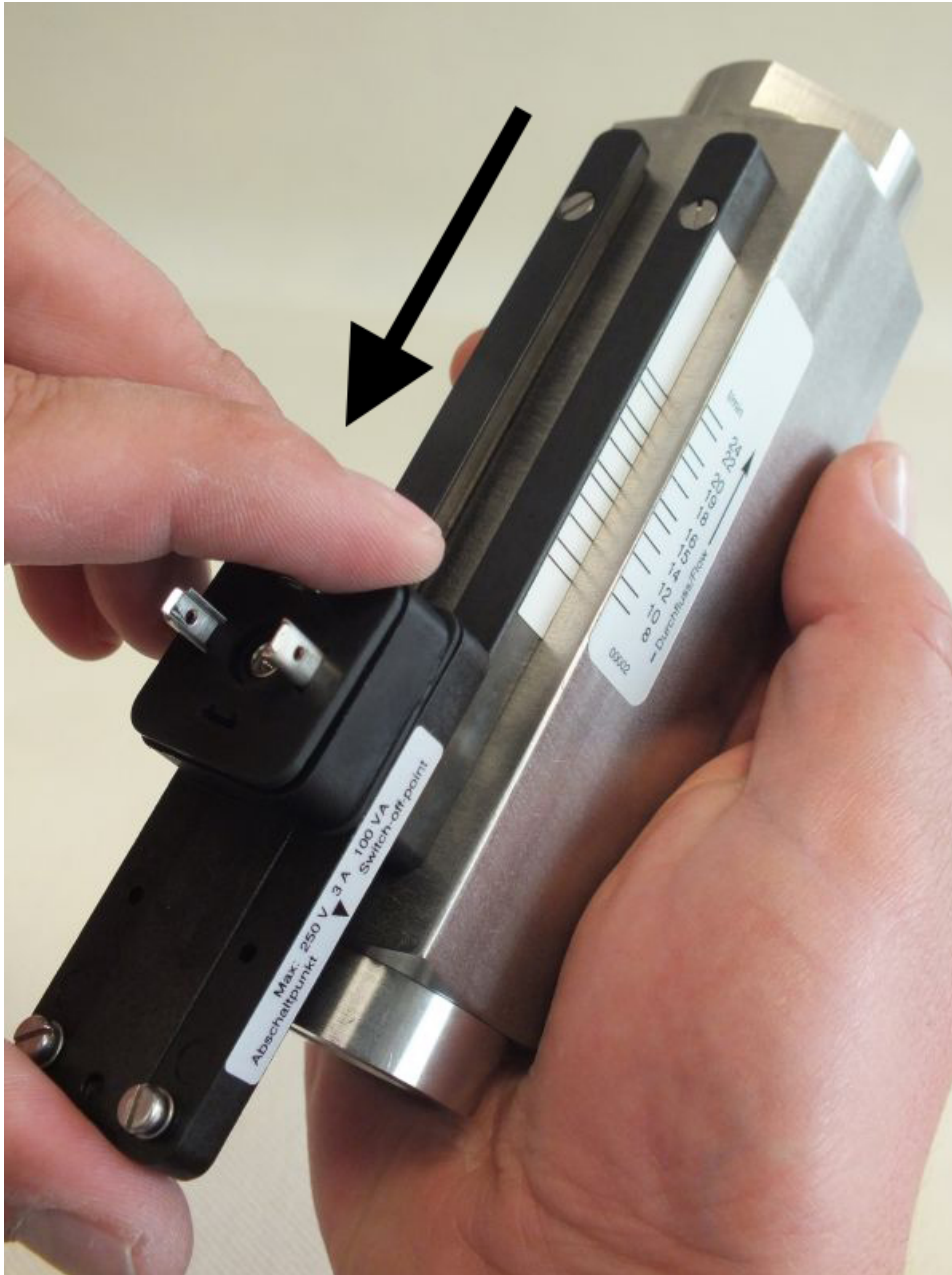

Fig. 69: Remove switch contact from guide rails
4. ➤ Remove the switch contact from the guide rails by sliding the switch contact in the direction of the arrow (Fig. 69).